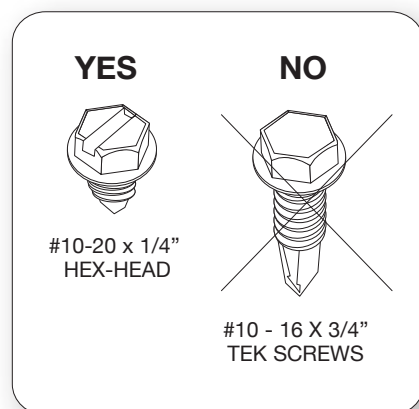

FIGURE 28
**BRACKETS:** Install the upper condenser brackets using four #10 - 20 x 1/4" screws as shown in figure 28. Next, attach the lower brackets in the positions shown in figure 29.